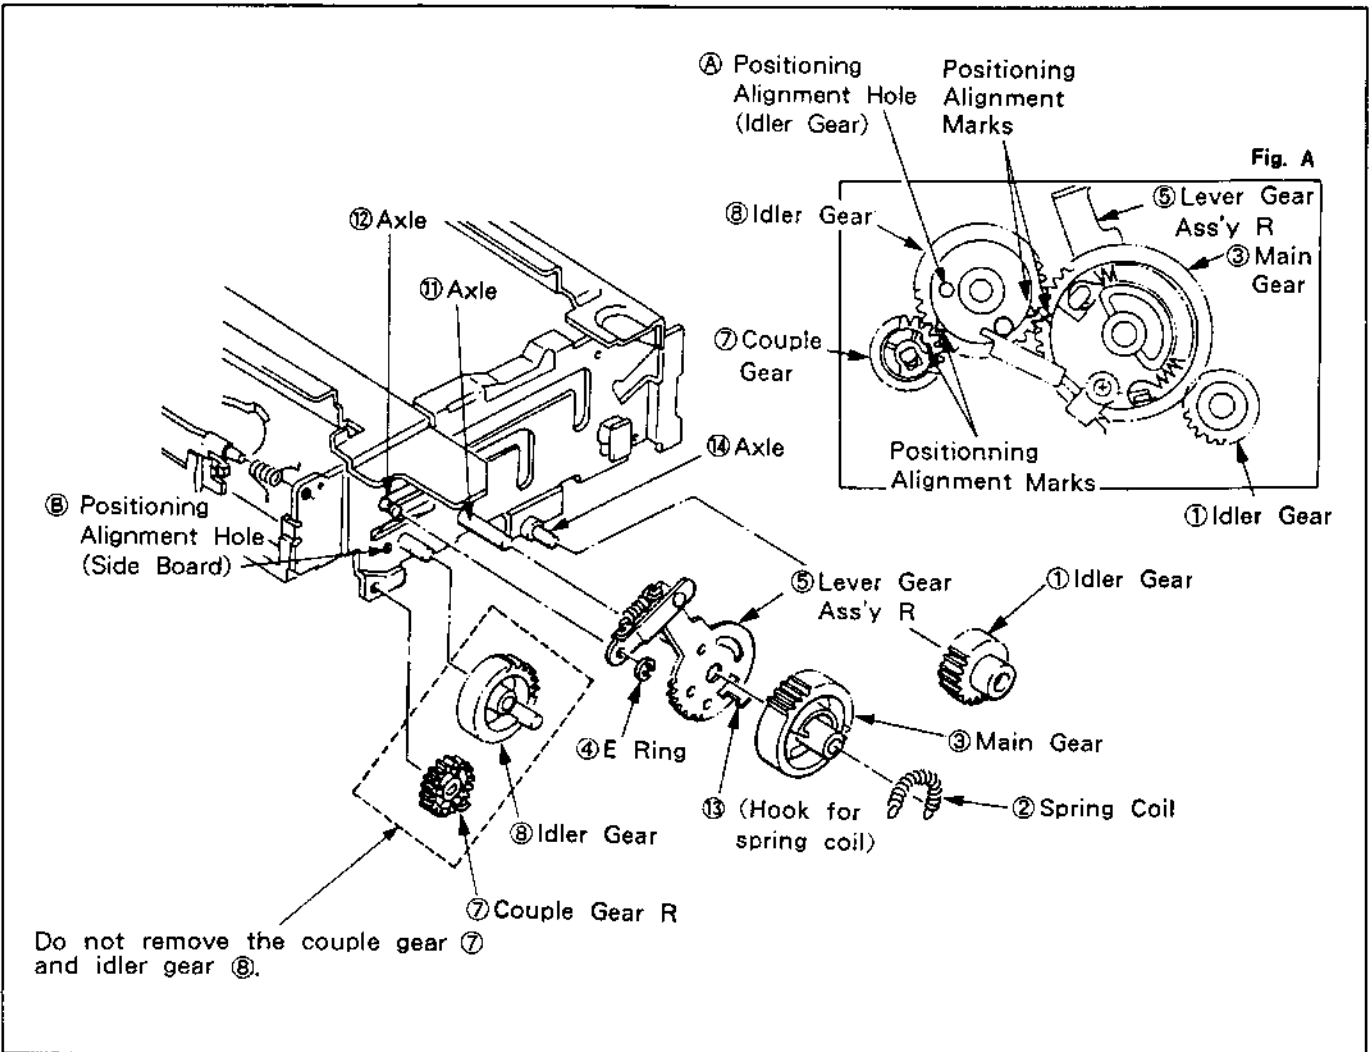

Fig. 2-2-3. Cassette Drive Gears (Right Side)
- 6) Mount the E ring ③ onto the shaft ⑧.
- 7) Set the GEAR BRACKET ASS'Y ② to the dowel and mount it using four screws ①.
Align the positioning alignment hole ⑭ of the IDLER GEAR with the positioning alignment hole ⑮ of the SIDE BOARD as shown in Fig. 2-2-3 at this time.
(See Fig. 2-2-3.)